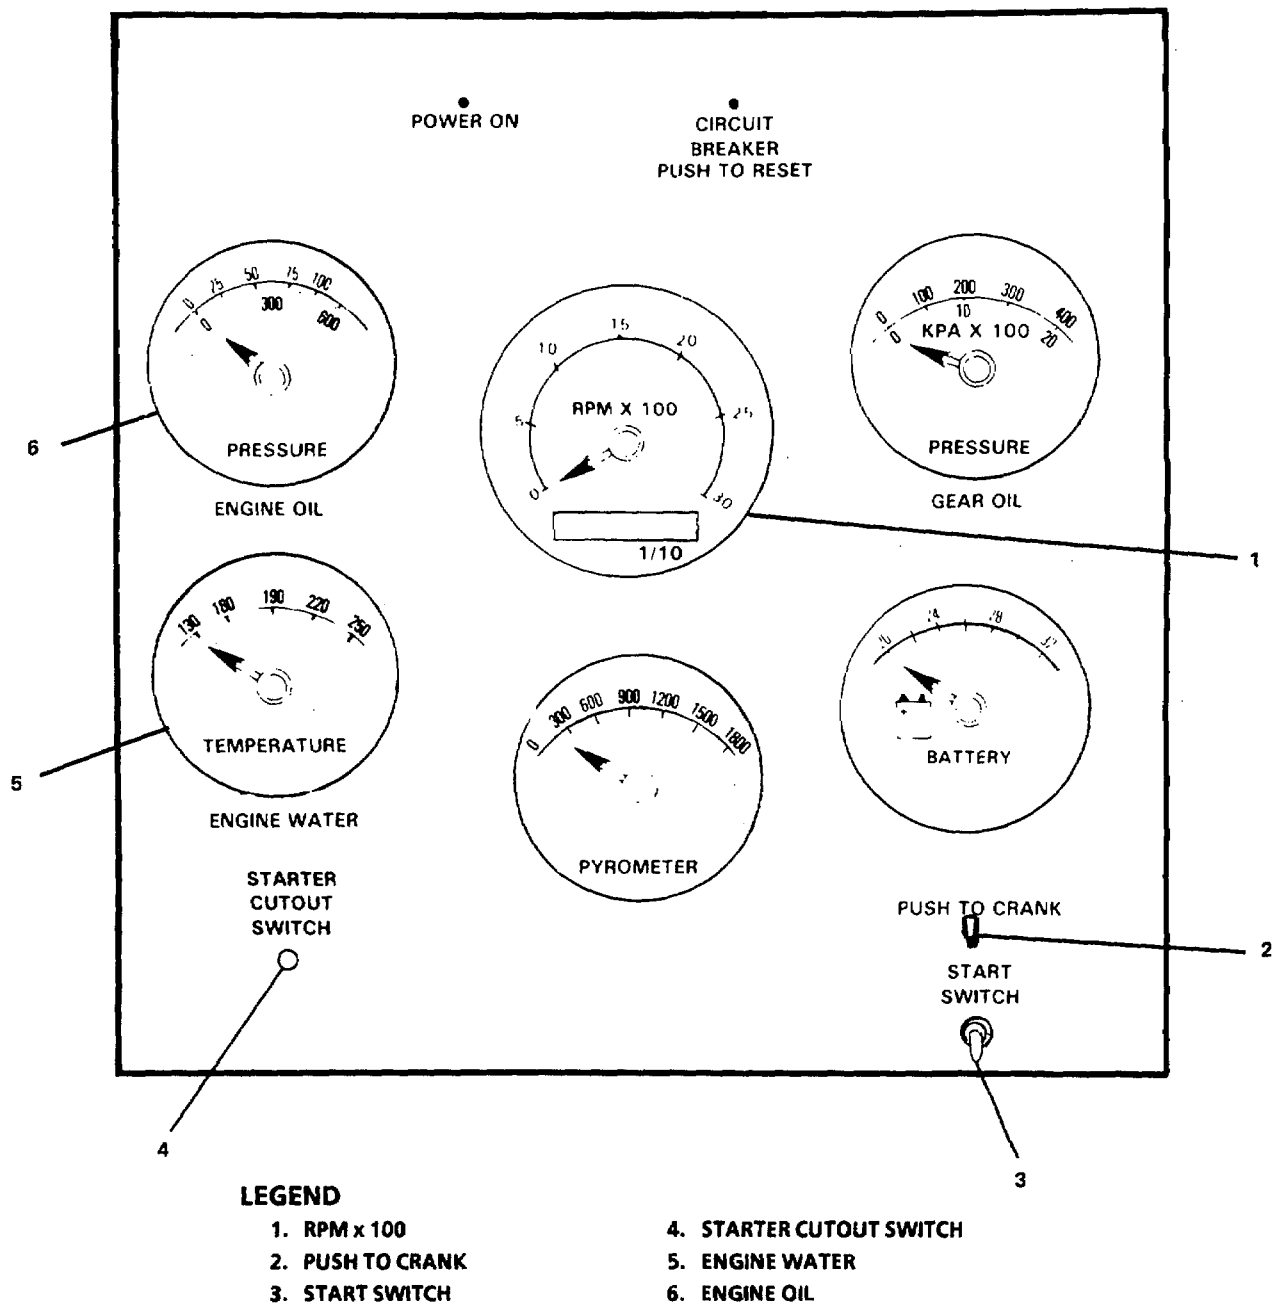

FIGURE 2-263. Bowthruster Engine Control Panel.
- (d) Open SW-30, ENG EXHAUST CUTOFF (1) (located on main deck underneath the port forecastle ladder).
- (e) At the Bowthruster Engine Control Panel (FIGURE 2-263), set STARTER CUTOFF SWITCH (4) in the up position. Set START SWITCH (3) in the up position.
- (f) Press PUSH TO CRANK pushbutton (2).